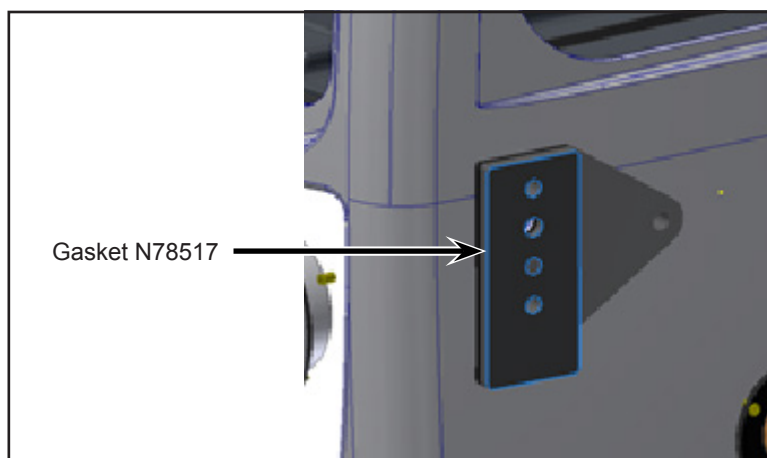

*Figure 25 - Installation of Gasket*
- 1.29. Install gasket N78517 on N84119. No sealant is required (see Figure 25).